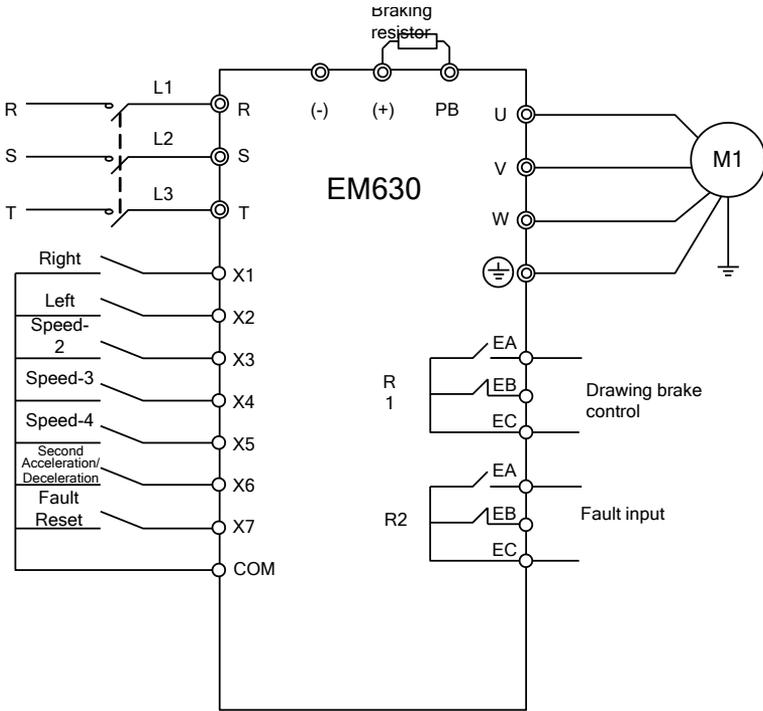

Figure 13-3 Wiring Diagram of EM630 Inverters for Slewing Application of Tower Crane
2. If F20.00=3 is selected for EM630 inverter for tower crane slewing applicationV, then functions of Xi, R1 and R2 shall be configured as per Figure 13-3.